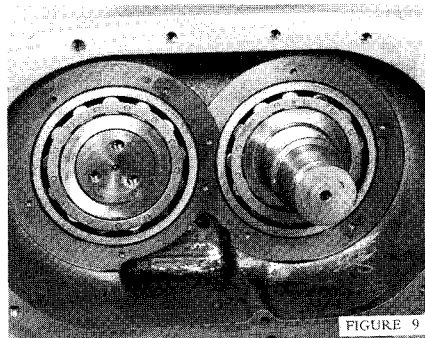

FIGURE 9
- Install bearing retainer plates using Nylok type screws. Tightening these screws pulls the rotor shaft through bearings until shoulder of shaft and shaft shims, Figure 9, are jammed against bearing inner race. This provides proper rotor position from discharge end plate.